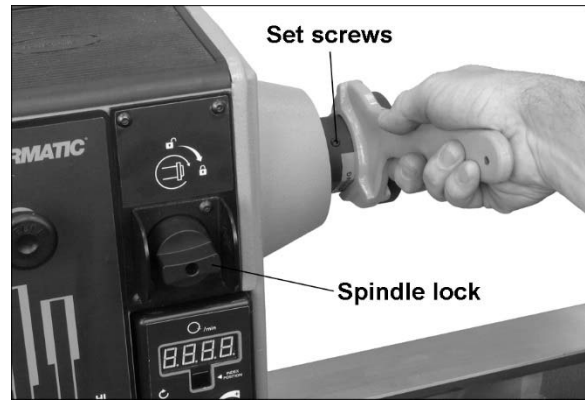

Figure 8-8: faceplate
3. Rotate spindle lock switch (Figure 8-8) and rotate handwheel slightly until lock engages with spindle.
WARNING If at any time you will be *reversing* spindle rotation, make sure the two set screws in the face plate are tight! One of these is shown in Figure 8-8. Failure to do this may cause face plate to loosen from headstock spindle.
5. To *remove* face plate, loosen the two socket set screws (Figure 8-8). Engage spindle lock switch and turn face plate counter-clockwise with face plate wrench, as shown.
WARNING When turning with a face plate, make sure both set screws on the face plate are tight (see Figure 8-8) before reversing spindle. Failure to comply may cause face plate to spin loose from spindle.